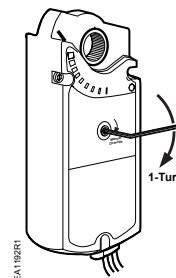

Figure 5.
1. Without the shaft adapter installed, using the hex wrench, wind the manual override one full revolution and release the wrench (See Figure 5). The actuator will return to the 0° position and the preload is now removed.